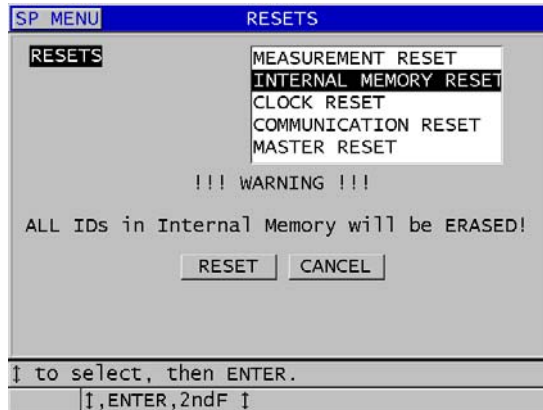

Figure 11-22 Warning message when resetting measurements
3. In the **RESETS** screen (see Figure 11-22 on page 191):